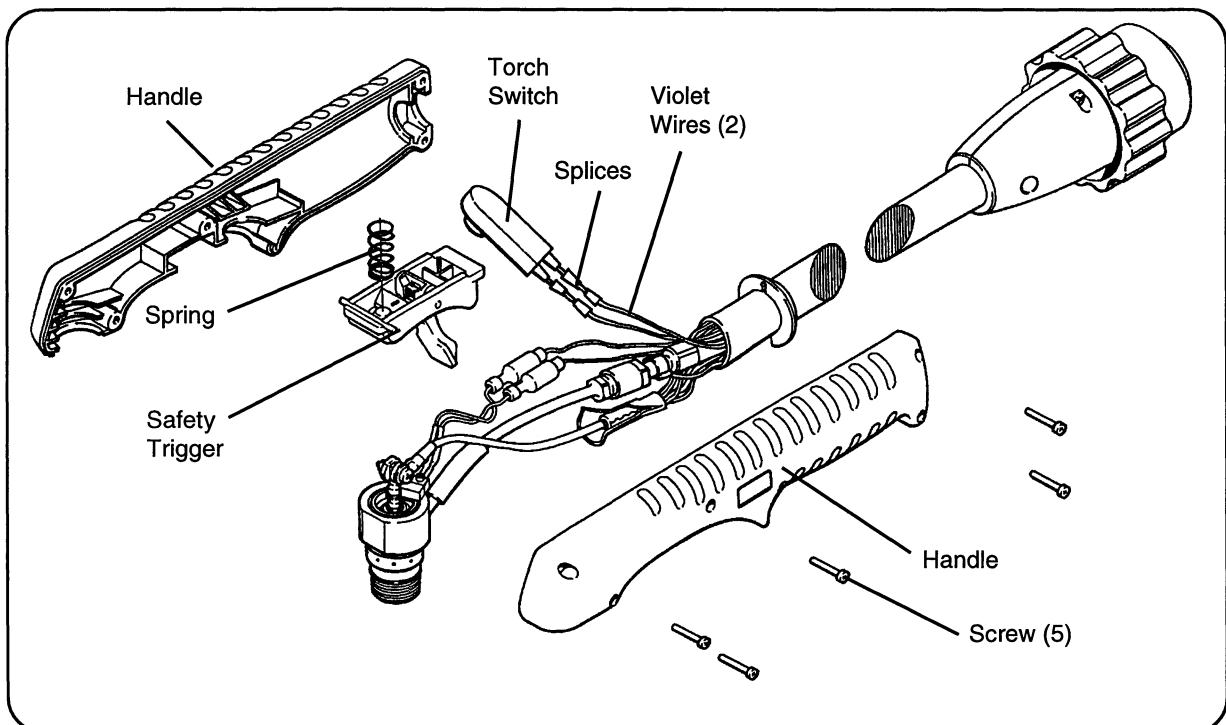

Figure 5-2 PAC125T Torch Switch Removal
2. Remove the 5 screws that secure the handle halves together and remove handles from torch main body, torch switch and safety trigger (Figure 5-2).
7. Install the torch main body and torch switch back into the handle (Figure 5-2). Be certain that the torch switch slides into position above the safety trigger, and that trigger movement activates the switch pushbutton and then releases. While positioning the handle halves together, be careful not to pinch any wires.
To replace the torch switch, order the torch switch repair kit and refer to the following procedure and Figure 5-2.